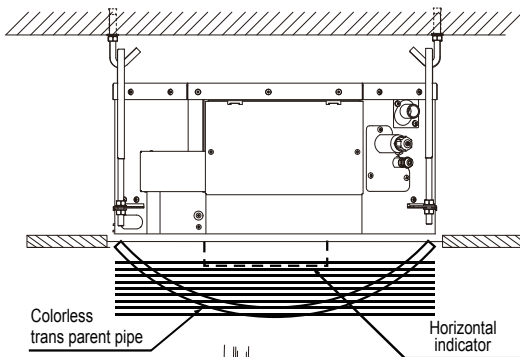

Fig. 5-6
- Use the transparent hose filled with water to check the lever of the main body from the four sides or diagonal line direction. The lever indicator can check the lever from the four sides of the main body. (Refer to Fig.5-6)